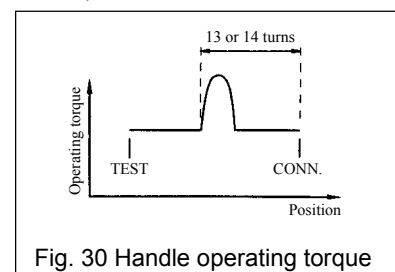

Fig. 30 Handle operating torque
- When the main contact starts engaging, the force required to turn the handle will increase as shown in Fig. 30. This symptom does not mean a malfunction. Continue to turn the handle. Rotating the handle more 13 or 14 turns moves the breaker body to the CONN. position, where the handle cannot be turned with its max. operating torque.
- 3) Lock the button cover using a padlock with $\phi 6$ shackle (up to 3 padlocks can be used) as shown in Fig. 30. The OFF button is locked depressed, which disables the ON button.